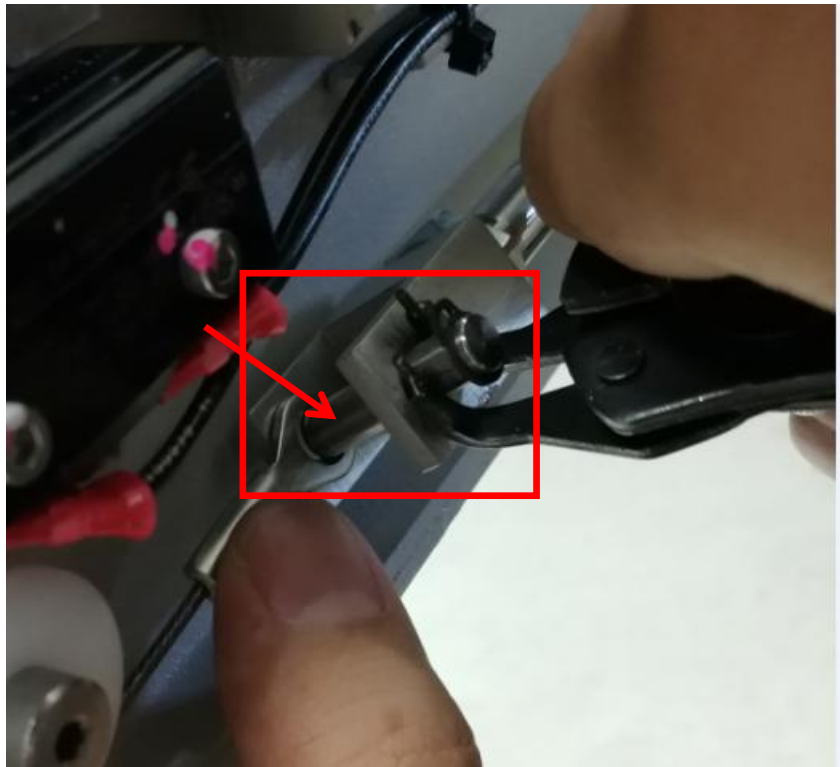

Figure 6
10. Twist the Front Extension Block and gently push out the dowel pin as Figure 6.